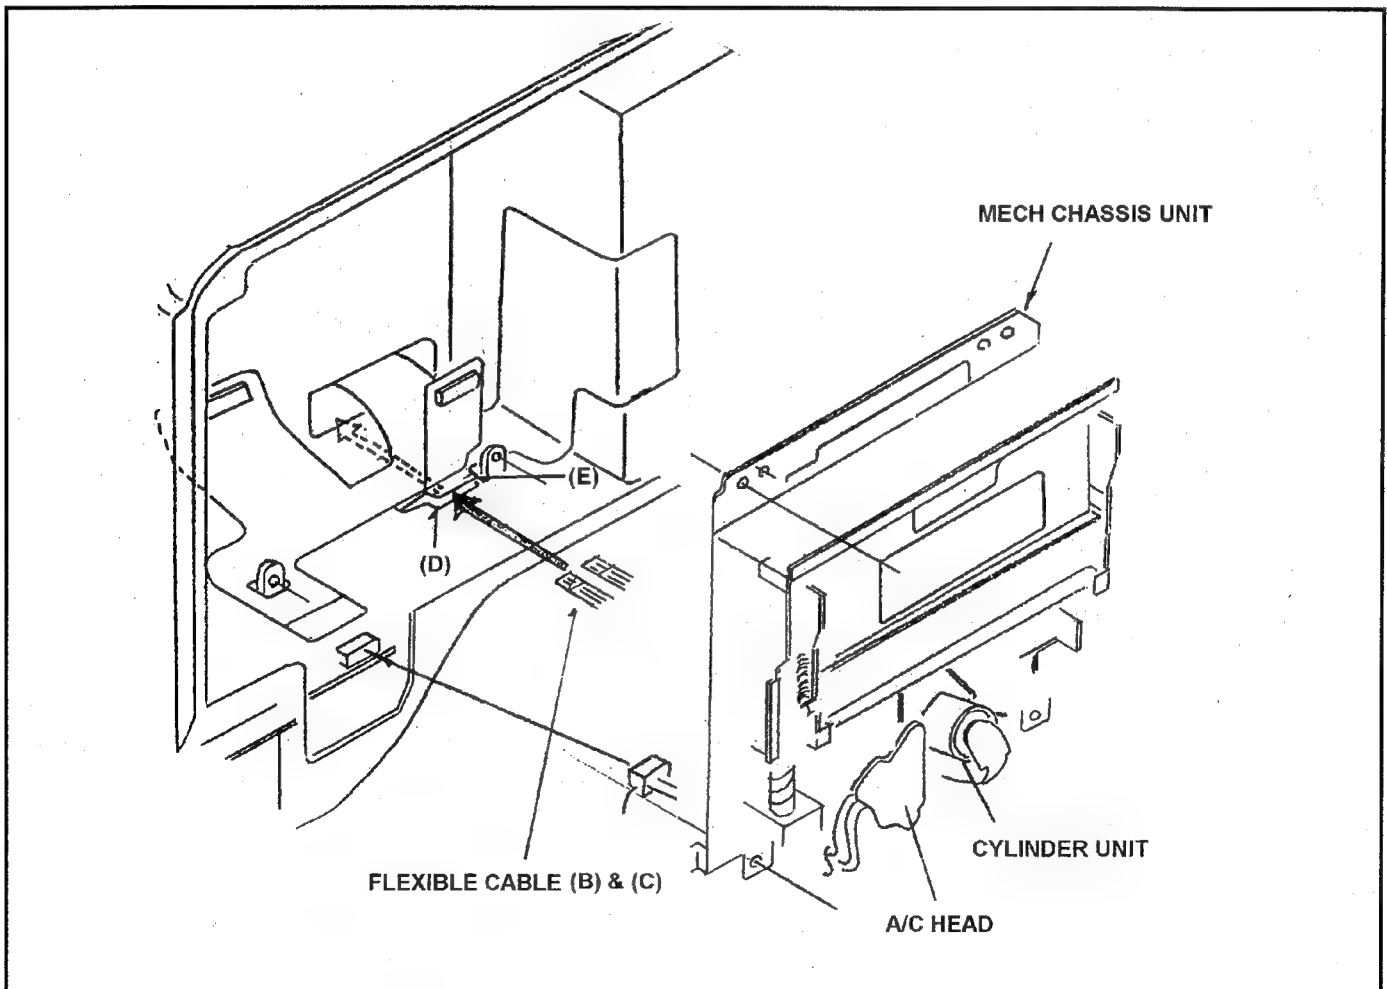

Fig. 10-1-5
Note: Please put the flexible (B) and (C) between copper shield plate (D) and (E) as shown in Figure 10-1-5.